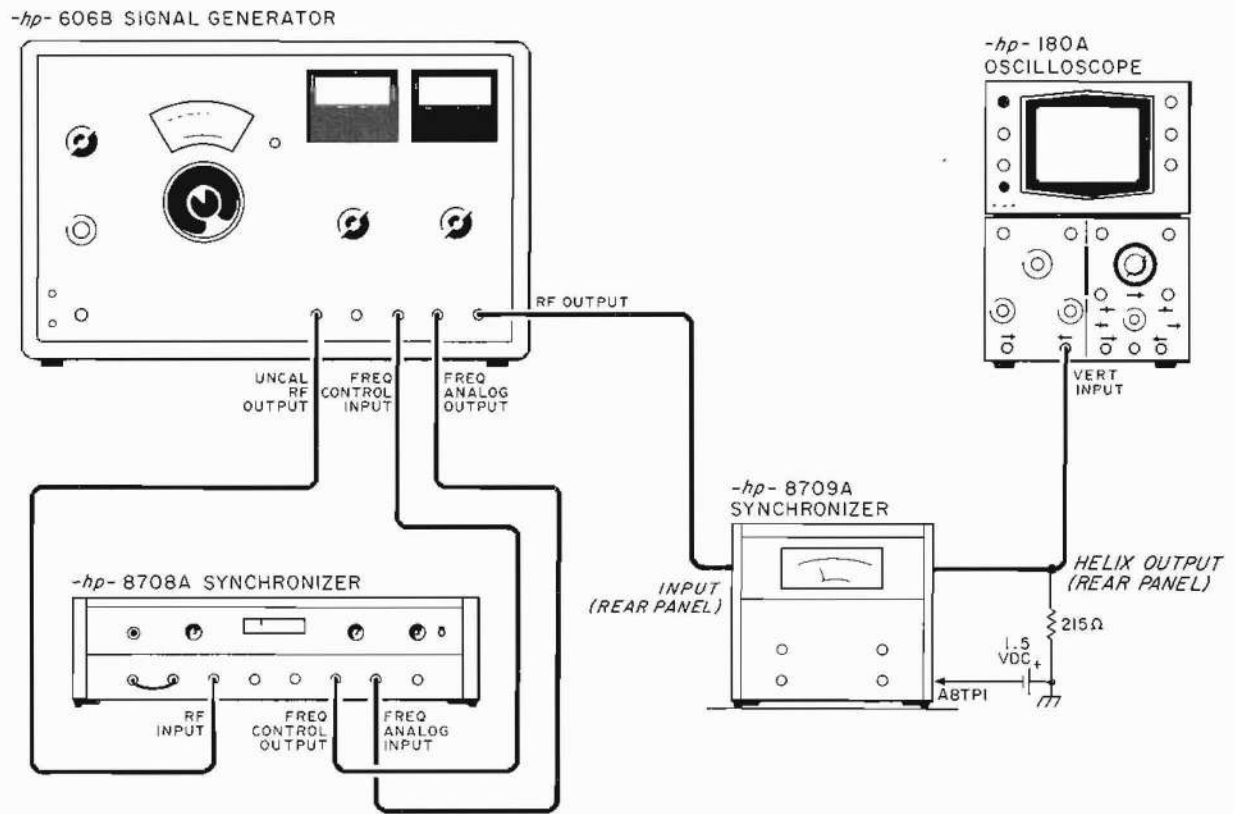

Figure 5-3. Helix Output Test Setup
b. Connect the 8709A to the test equipment as shown in Figure 5-3. Do not connect the 215Ω resistor.